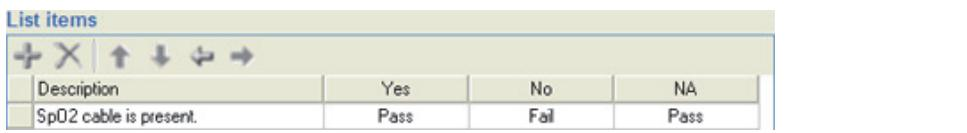

Figure 3-32. Three Checklist Options with Custom Names
6. Repeat the previous step for all other columns (options) that need to have the name changed. Figure 3-32 shows the option names changed to Yes, No, and NA.